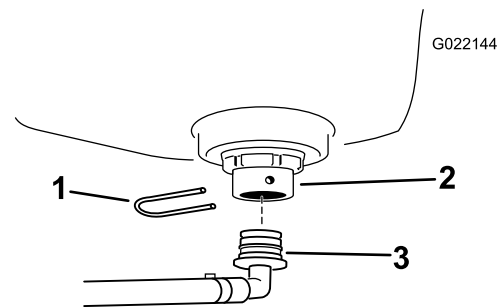

Figure 13
2. Install the rinse tank hosebarb to the bulkhead fitting so that it faces the hole in the sprayer frame, and secure it with a retaining fork (Figure 13).